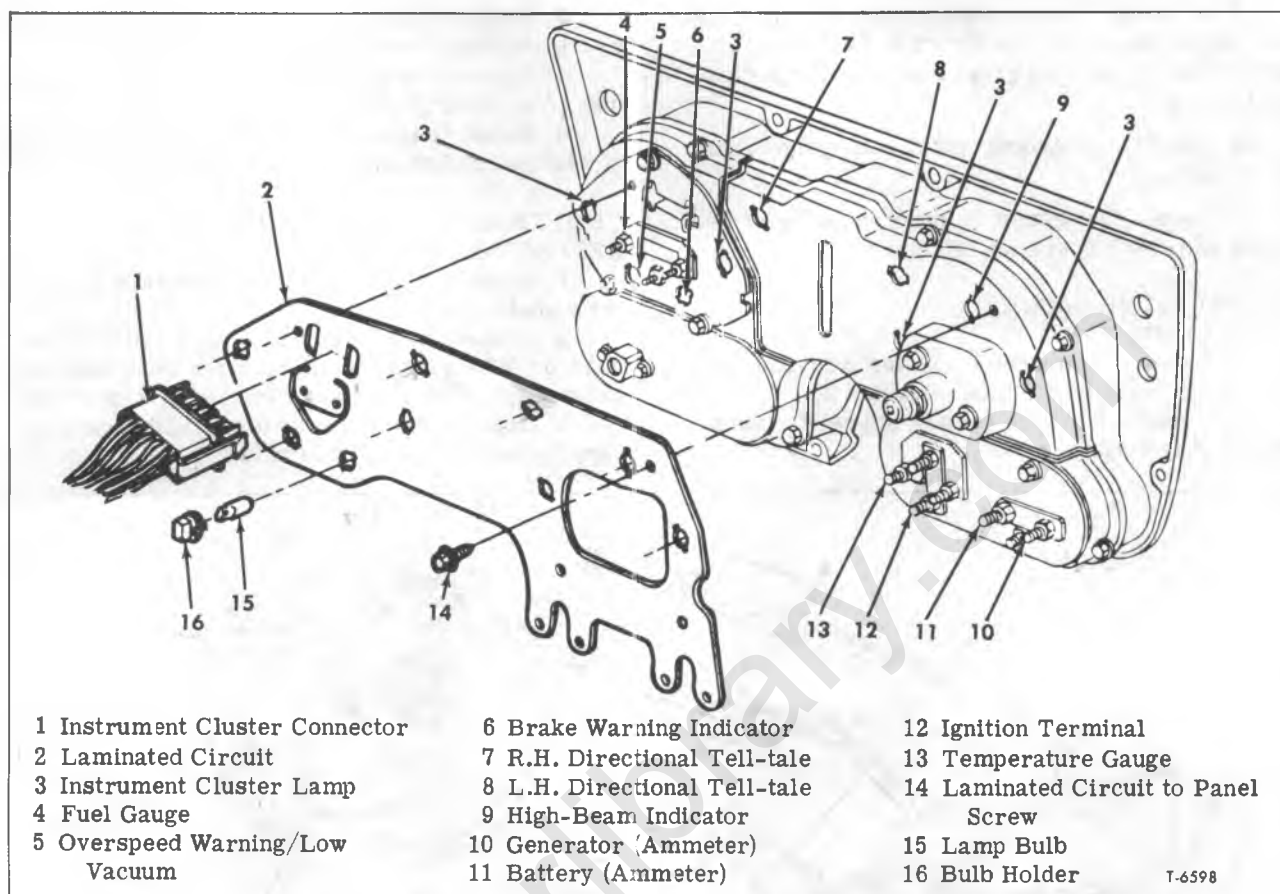

Figure 8—Instrument Cluster Connections (Conventional Cab Models) (Typical)
1. With instrument cluster removed from vehicle, remove all lamp assemblies from the cluster (fig. 8).
TEMPERATURE GAUGE REPLACEMENT (Fig. 8)
OIL AND/OR AIR PRESSURE GAUGE REPLACEMENT (Fig. 8 or 9)